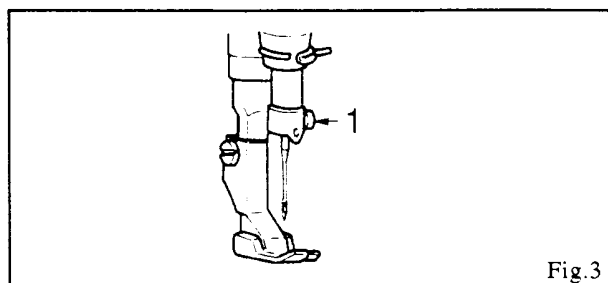

Fig.3
INSERTING THE NEEDLE (See Fig. 3)
Turn machine pulley over toward you until the needle bar moves to its highest position. Loosen needle set screw (1) as shown in Fig. 3. Insert needle up into needle bar as far as it will go with the long groove facing the left. Firmly tighten the needle set screw (1).